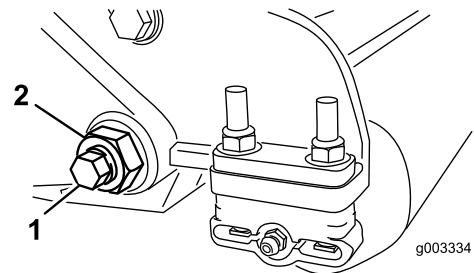
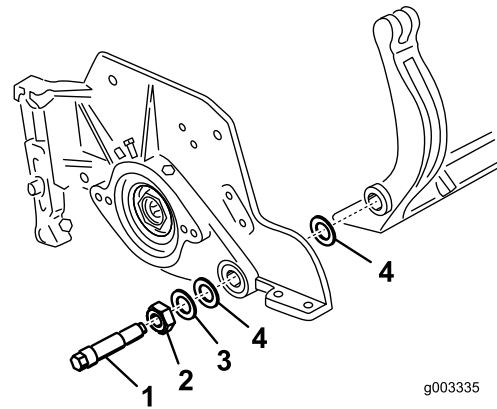

Figure 33
Figure 34
3. On each side of the machine, loosen the locknut securing the bedbar bolt (Figure 33).
4. Remove each bedbar bolt, allowing the bedbar to be pulled downward and removed from machine bolt (Figure 33). Account for 2 nylon washers and 1 stamped steel washer on each end of the bedbar (Figure 34).
4. Place a steel washer outside each of the nylon washers (Figure 34).